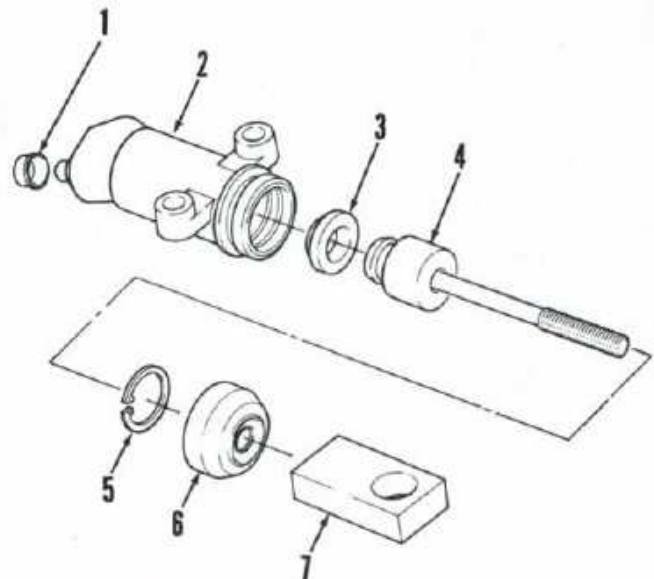

Fig. 83—Exploded view of clutch slave cylinder used on models equipped with cab.
To disassemble the slave cylinder, remove eye clevis (7—Fig. 83). Remove rubber boot (6) and snap ring (5), then withdraw piston (4) with seal (3). Remove seal from piston. Clean and inspect piston and cylinder housing (2) for scoring or other damage. If scored or damaged, renew cylinder assembly. A service kit consisting of bleed screw rubber cap (1), seal (3), snap ring (5) and rubber boot (6) is available. Reassemble and reinstall by reversing the disassembly and removal procedures. When installing eye clevis (7) on piston (4), apply Loctite 270 to first three threads of piston rod. Adjust eye clevis so that a distance of 3.4 inches (86.0 mm) is obtained between centers of cylinder mounting holes and eye clevis hole (with piston fully inward). Bleed air from system as outlined in paragraph 100.
**100. BLEED CLUTCH SYSTEM.** To bleed air from system, remove bleed screw cap (1—Fig. 83) and connect a length of transparent hose with its free end in Hy-Tran Plus fluid. Loosen bleed screw. Fill reser-